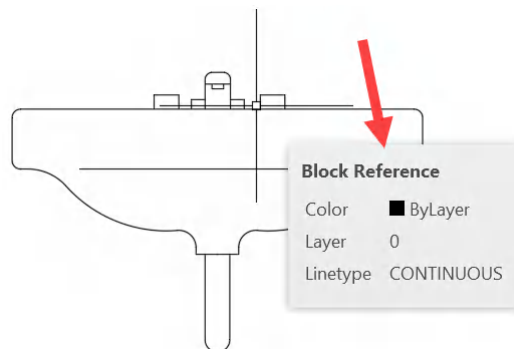

Figure 12.7: The Washbasin\_FRONT block indicated by the tooltip
9. The dialog box will close, and your objects will now be a block reference in the drawing. To check that the objects have been converted to a block, hover over the washbasin front view and AutoCAD will provide a tooltip, as shown in *Figure 12.7*. If that tooltip reads **Block Reference**, you know that the objects have been converted to a block.